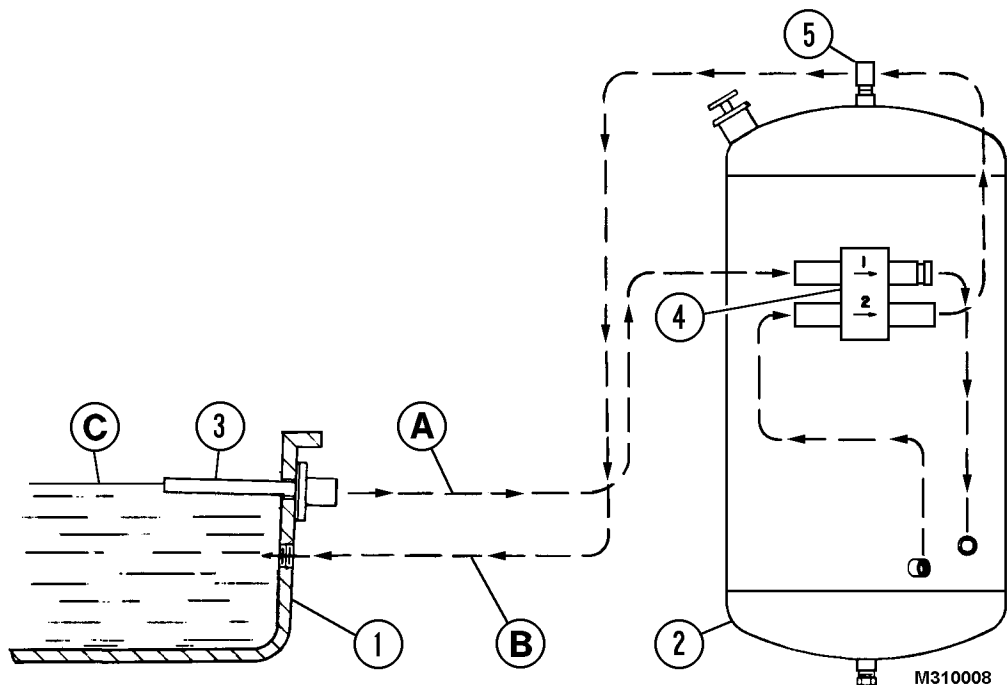

FIGURE 31-2. RESERVE SYSTEM SCHEMATIC
Engine oil is circulated between engine oil pan (1, Figure 31-2) and reserve tank (2) by two electrically driven pumps (pump 1 and pump 2) within a single pumping unit (4). The pumping unit is mounted on the side of the reserve tank. The pump unit is equipped with an LED monitor light on one side.